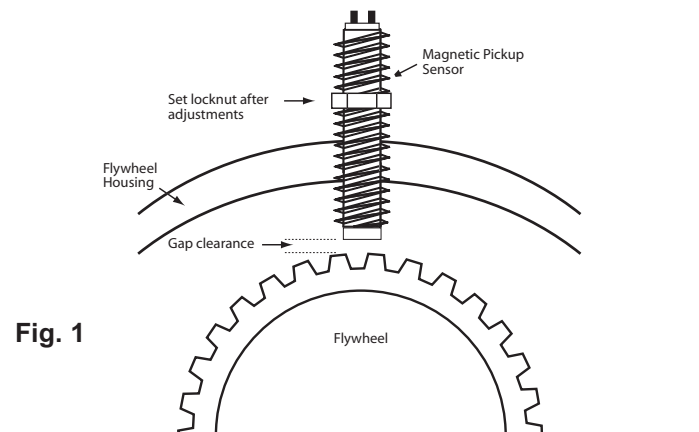

Fig. 1
Step 1 — Drill or tap a hole in the flywheel housing (IMPORTANT: Drilling too deep may damage ring gear teeth. Blow chips with air hose when drilling and tapping hole). Insert the Magnetic Pickup sensor into the hole. BE CAREFUL not to exceed the recommended gap between the sensor tip and the flywheel. It is suggested to tighten the sensor until it touches the flywheel, then back off the sensor a quarter or half turn (consult your magnetic pickup sensor’s documentation for appropriate gap space). Check gap clearance by rotating the gear completely around. After adjusting set lock nut (Fig. 1).
The Smart Actuator II™ receives electronic impulses from the control head which moves the actuator plates into a position where the associated engine's gear or throttle control lever has reached its mechanical stop position (endpoints) — see Figure 1. Calibration of the Smart Actuator II™ endpoints is necessary to ensure that the engine achieves idle speed or full throttle when moved by the Smart Actuator II™.